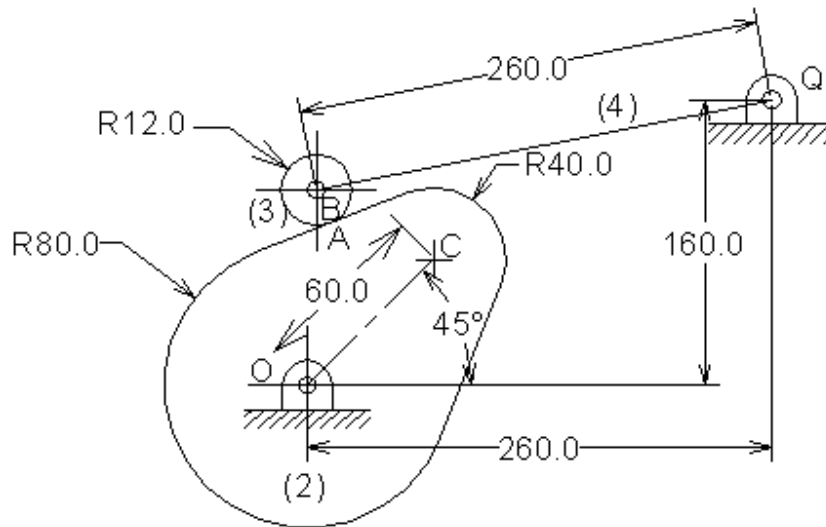

Figure P2.42
2.42 The straight sided cam shown in Figure P2.42 rotates clockwise at 600 rpm and actuates an oscillating follower. Find the angular velocity and angular acceleration of the follower and the roller.